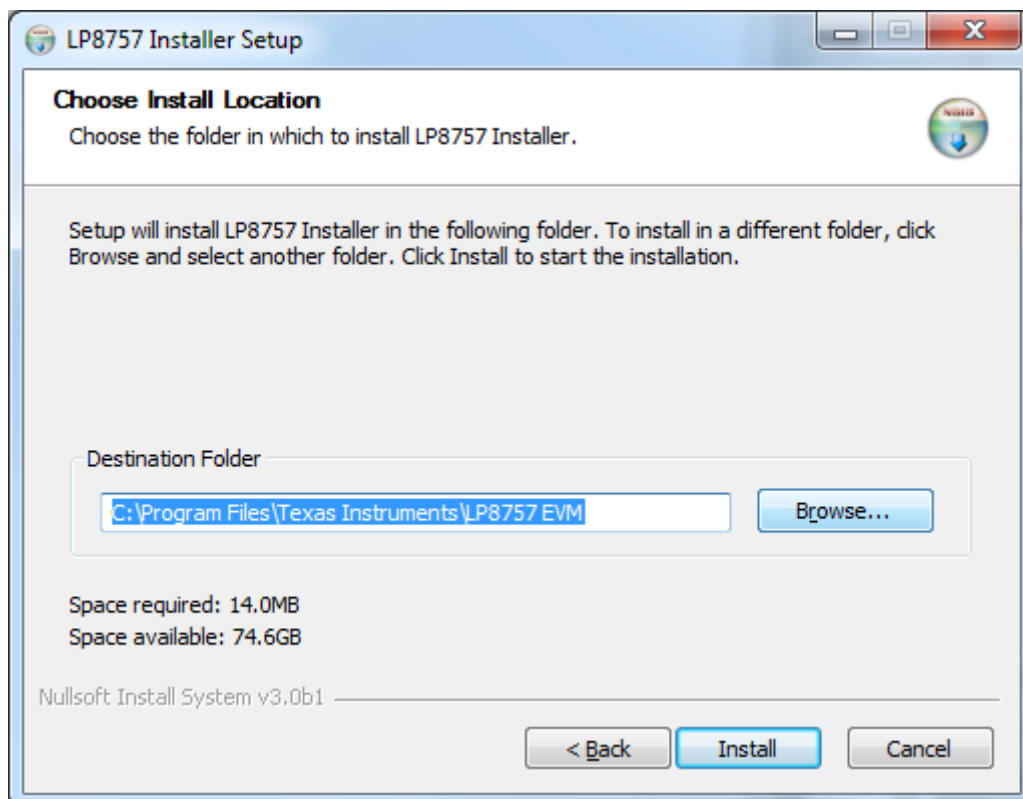

Figure 4. LP8757 Destination Folder
4. Installer prompts to select Destination Folder (see Figure 4).